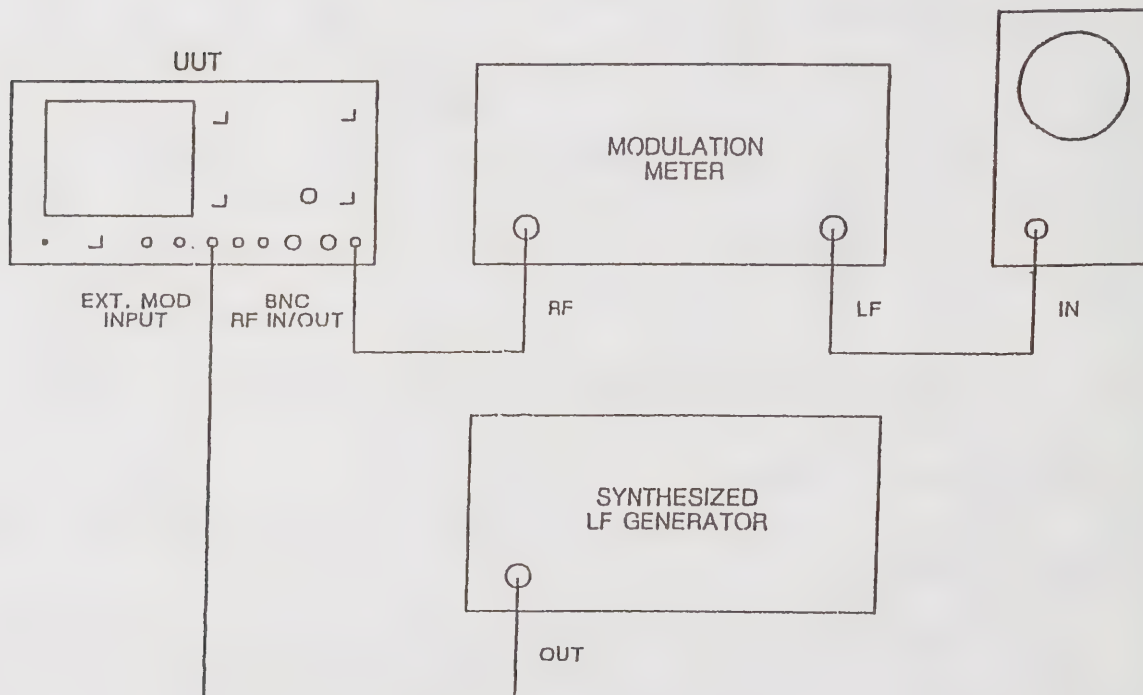

Fig. 3-3 Test equipment connections for adjusting R138 on AA3
- (1) Connect the equipment as shown in Fig. 3-3.
- (2) Set the UUT to RECEIVER TEST, BNC output socket. Set the signal generator to 300 MHz, level 0 dBm, 0 kHz FM.
- (3) Set the synthesized LF generator to give a 10 Hz square wave of 1 V pk-pk.
- (4) Set the modulation meter to monitor FM. (If the Marconi Modulation Meter 2305 is used, select the 10 Hz to 300 kHz filter and set the LF control to the white mark.)
- (5) The oscilloscope should display a fuzzy 10 Hz 'square wave' which will have some sag. If there is more than 40% sag, adjust R138 until the top and bottom of the waveform are reasonably straight and smooth.